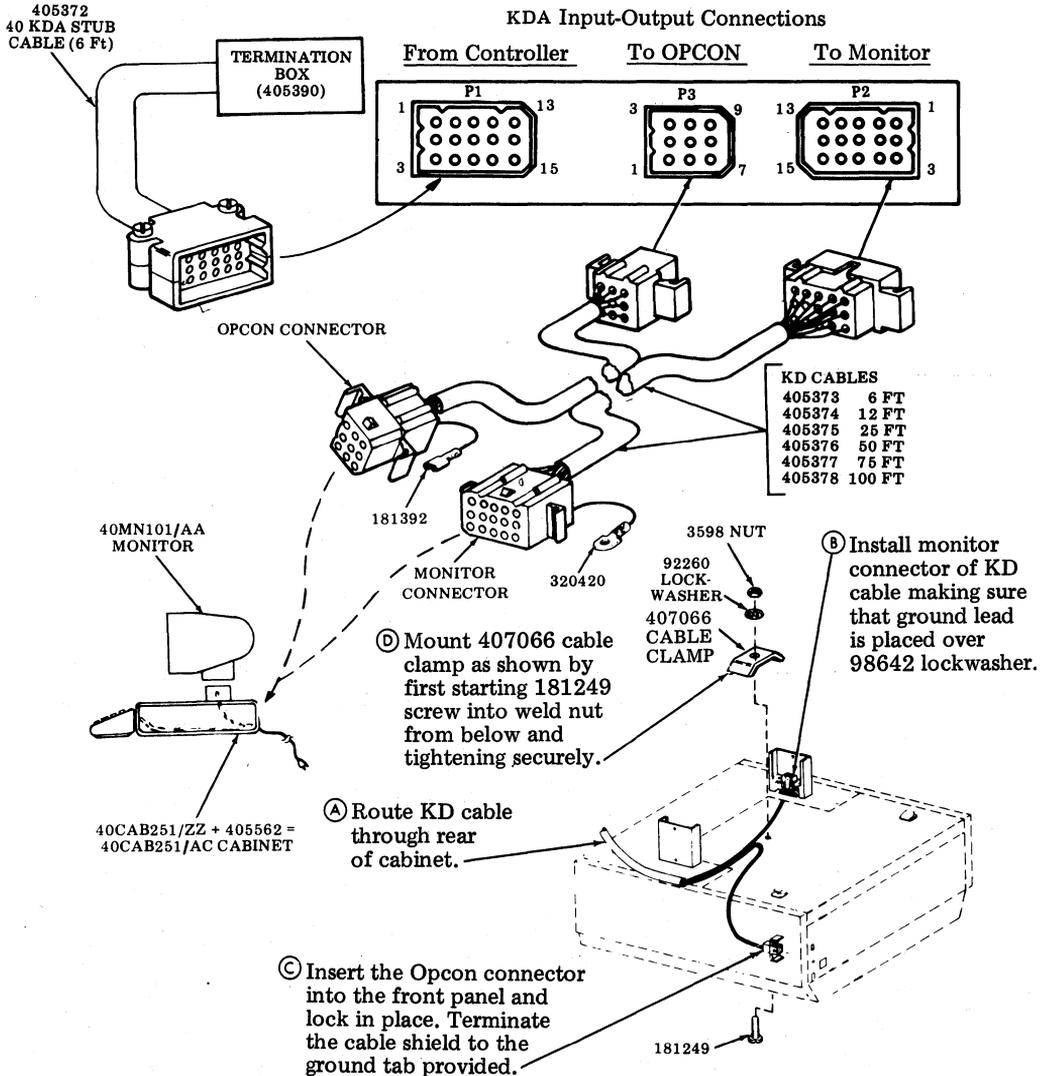

Fig. 13—Example of KDA Connection For Attached Style KD
length and skinned approximately 1/4 inch. Conductors must not be solder tinned. Insert wires into the appropriate terminal block as illustrated in Fig. 13 and tighten 1291 screws. After making checks of 4.17, remount cover and tighten 195292 screw.
4.12 Connection of the KDA outside the monitor support cabinet of an attached KD (Fig. 13); plug the 405372 stub cable ① directly to P1 of the KDA. Plug the two connectors of the KDA to KD cable ⑥ to P2 and P3 of the KDA. Follow steps ① through ④ for cable mounting at the attached KD. Connection of the KDA inside the monitor support cabinet is described in Specification 50853S.